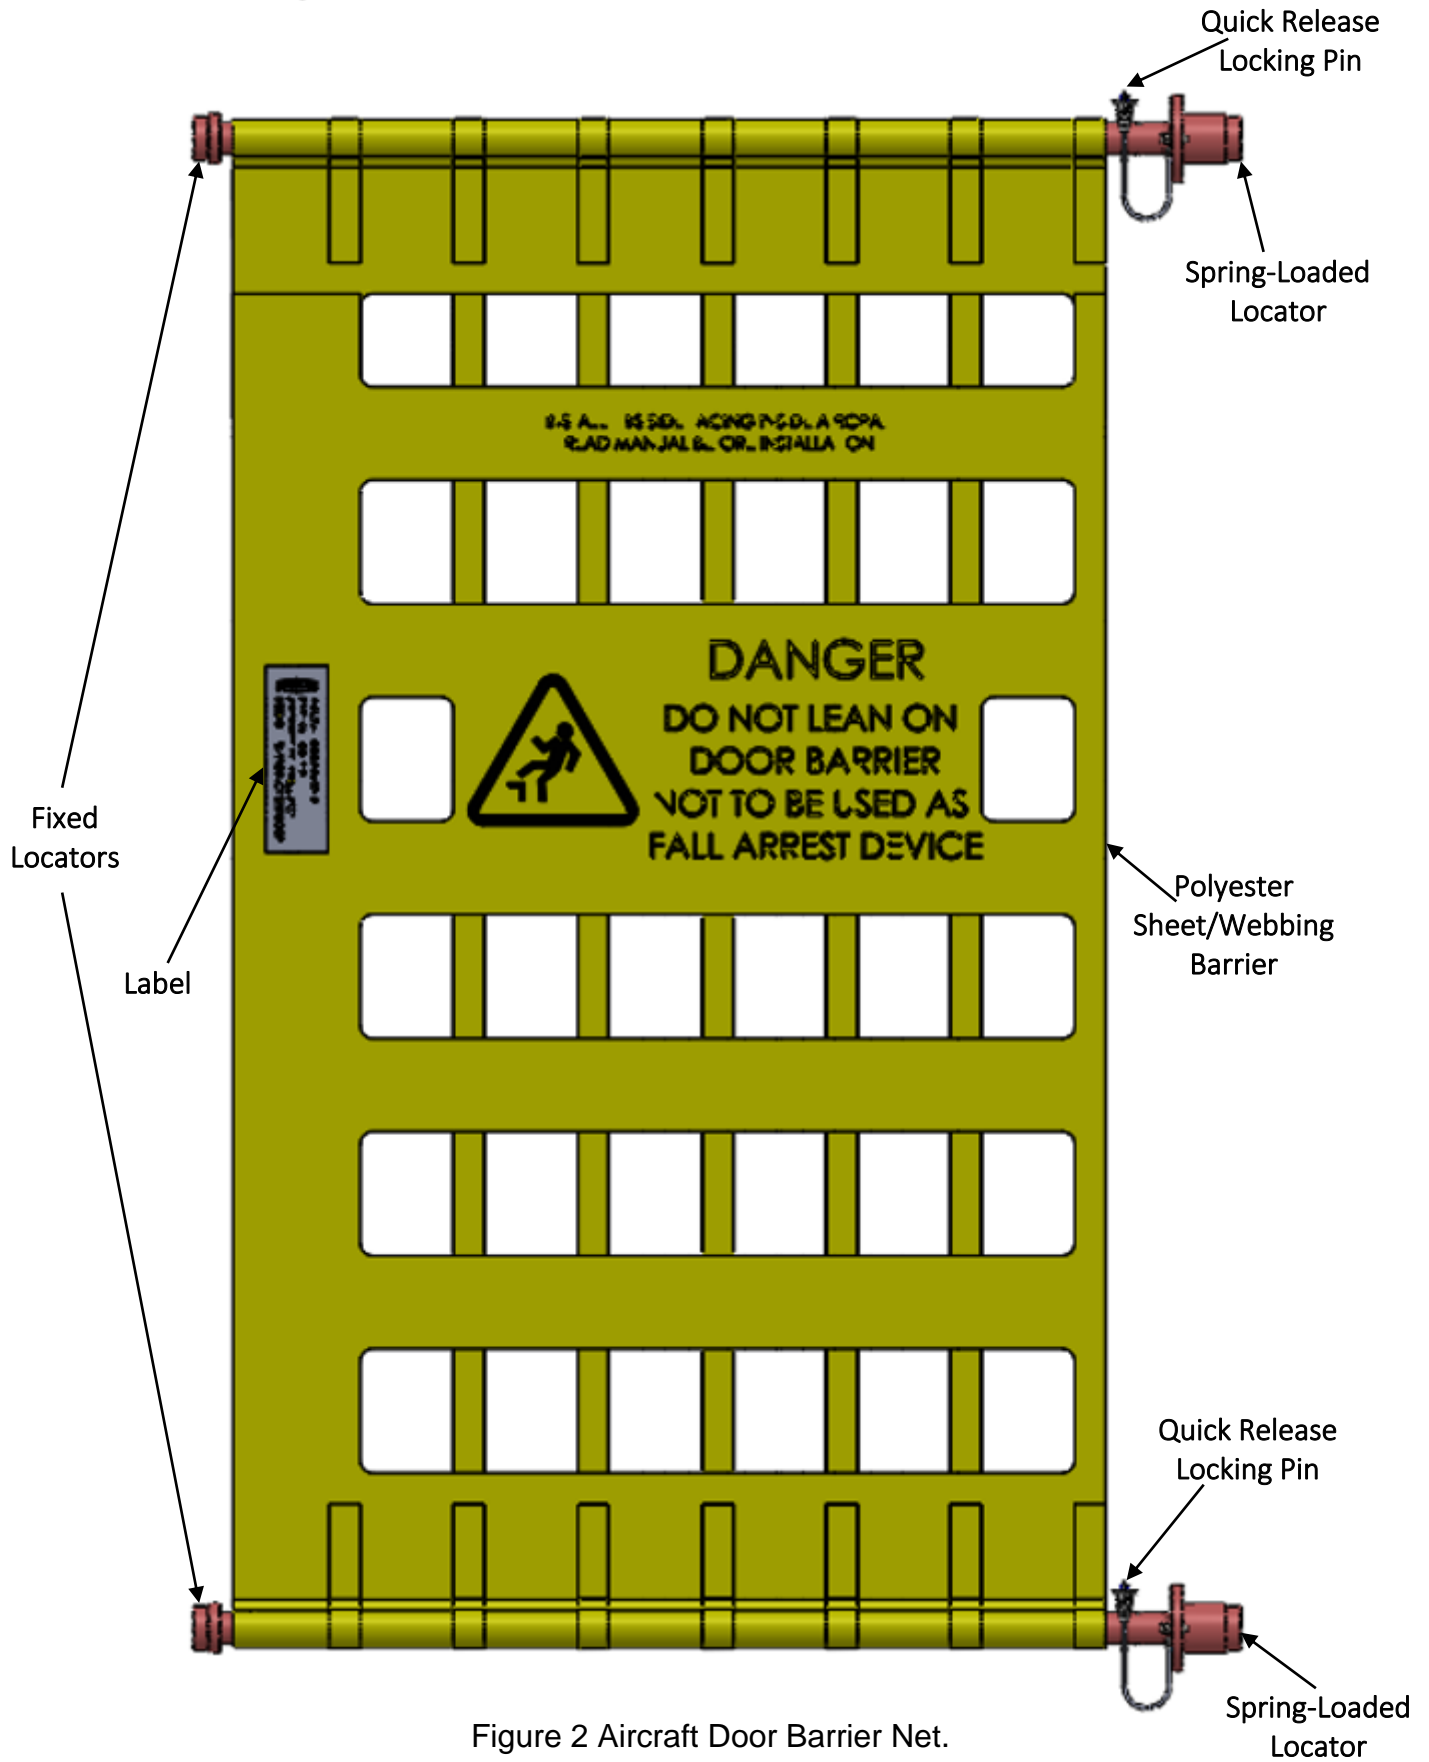

Figure 2 Aircraft Door Barrier Net.
- 2.2.1 Figure 2 shows a general construction of the aircraft barrier door nets.
- 4.1.1 Firstly, make sure that the warning sign is upright, facing towards the inside of the aircraft and clearly visible to all personnel. As shown in figure 2.